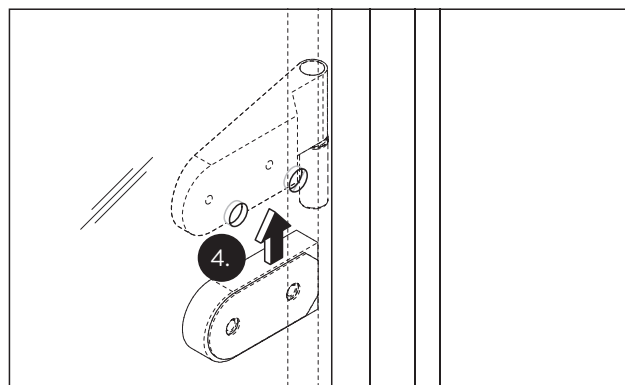

Abb. 22 Positioning the lining section
4. Position the lining sections on the hinge side between the glass door panel and the frame pivots (Fig. 22).